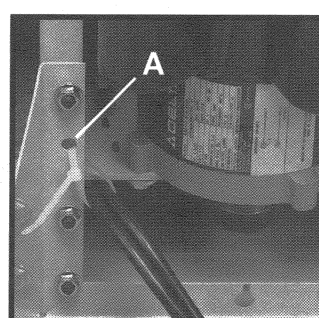

Fig. 2C
4. A cable tie is supplied with the machine to keep the power cord inside the leg assembly. Secure the power cord with the cable tie through hole (A) Fig. 2C.